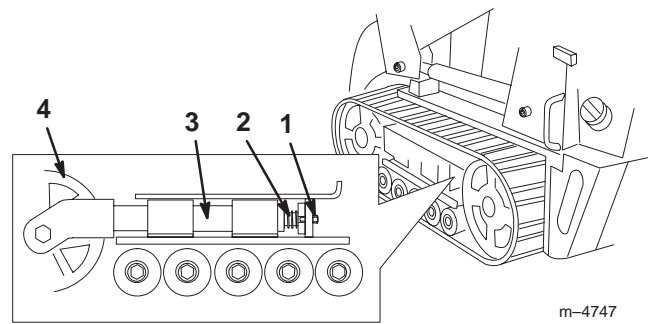

Figure 34
3. Remove the locking bolt and nut (Fig. 34).
4. Using a 1/2 in. drive socket, release the drive tension by turning the tensioning screw clockwise (Fig. 34 and 35).